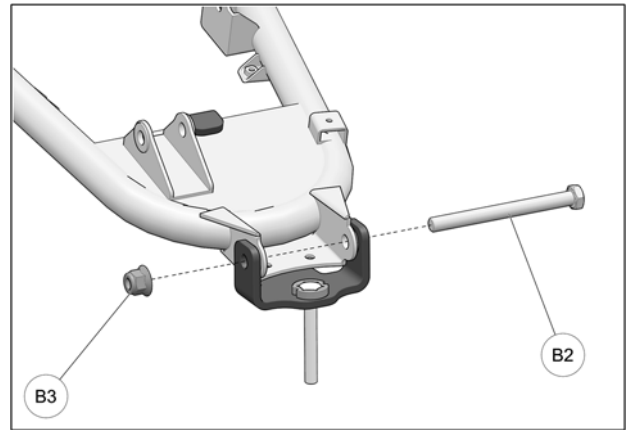

Fig. 8
8. Insert the new M12x130mm bolt (B2) through anchor bracket, suspension arm and wheel knuckle. Secure assembly with the provided M12 nut (B3). Torque nut to 88 N•m [65 lb•ft]. See Fig. 8